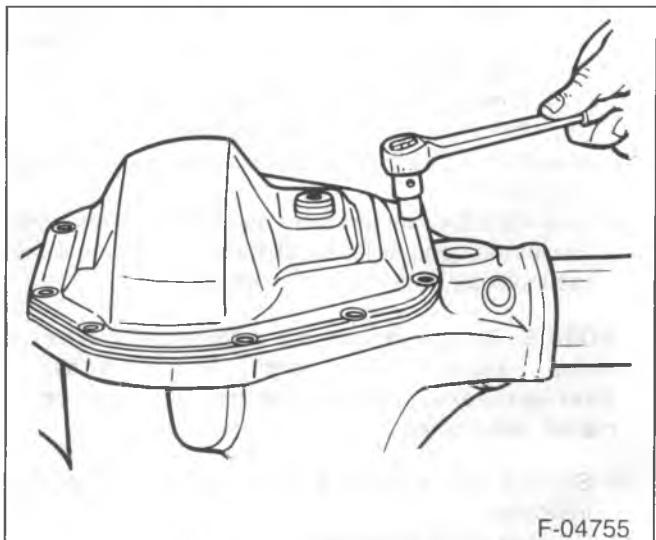

Figure 82—Installing the Axle Cover
3. Axle cover (14) to the housing (figure 82).
- The cover bolts (17) to 47 N·m (35 ft. lbs.).